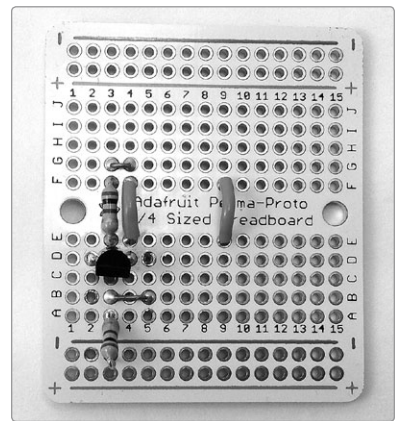

FIGURE 14-11: *The 1M ohm bias and ground resistors are installed.*
Step 9 Now connect the 1M ohm bias and ground resistors (brown-black-green), both of which connect to the transistor's base leg. The bias resistor runs from 3E to 3F, bridging the divide. The ground resistor runs from 3A to the third pad in the row directly below the blue line (labeled with a - sign), which serves as the *common ground rail*. Figure 14-11 shows both resistors.